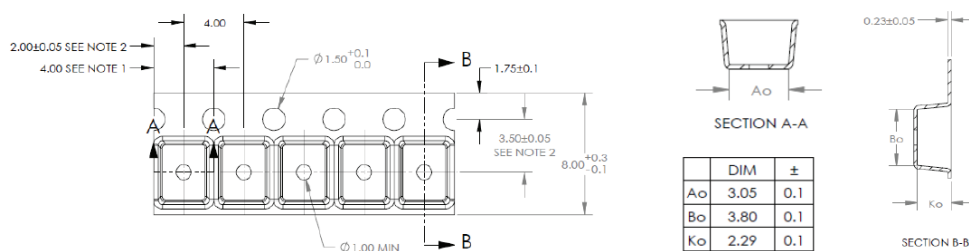

Figure 11. Pocket Tape dimensions for SignalSure 140
Notes for Figures 11 and 12:
- Notes for Figures 11 and 12: